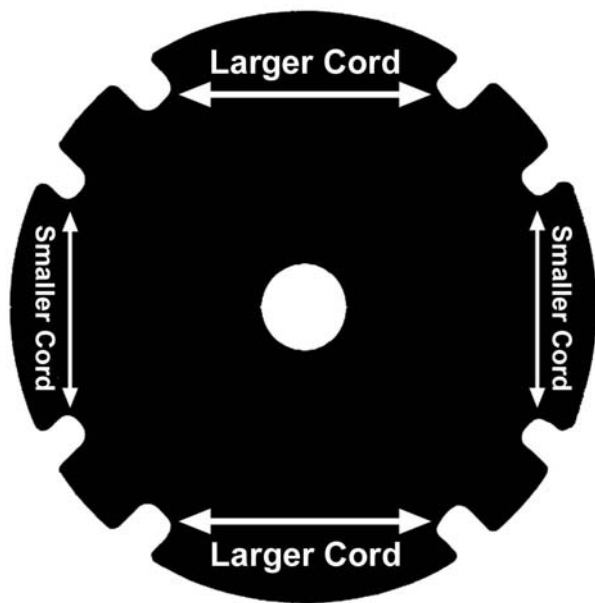

Figure 9
The following figures (*Figures 9 and 10*) illustrate the Cords installation on the line plates. These figures show the Line Plates from a cross section point of view. It may look complicated, but once you have done it a couple of times, it's easy. There are two (2) sets of installation points on each Line Plate. Each pair is 180 degrees apart. One (1) set of holes is for larger Cord (Blue, 175 mil, and Green, 155 mil) and is marked with large arrows. The other set of holes is marked with small arrows and are at 90 degrees to the larger holes and they accommodate the smaller Cord (Orange, 130 mil). Always install two (2) Cords, one opposite the other.
2. Push the Cord through until it comes out the center hole in the Line Plate as shown in **Figure 12**. You may also reference **Figures 9 and 10** for installing the Cords. Adjust the Cords so the tips are even.